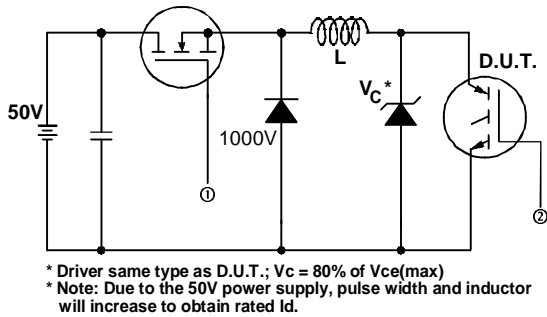

Fig. 13a - Clamped Inductive Load Test Circuit
- ② $V_{CC} = 80\%(V_{CES}), V_{GE} = 20V, L = 10\mu H, R_G = 100\Omega$, (See fig. 13a)
- ③ Repetitive rating; pulse width limited by maximum junction temperature.
- ④ Pulse width $\leq 80\mu s$; duty factor $\leq 0.1\%$.
- ⑤ Pulse width $5.0\mu s$, single shot.